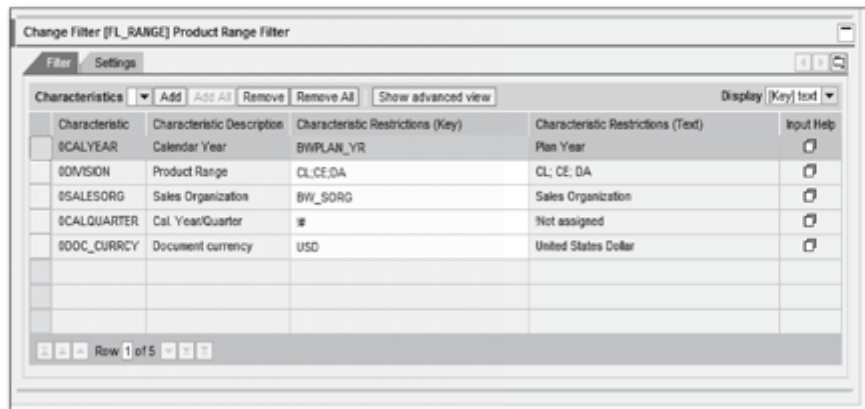

Figure 12.40 Define Filter Restrictions
6. Restrict the remaining characteristics of the FL_RANGE filter as shown in Figure 12.40.